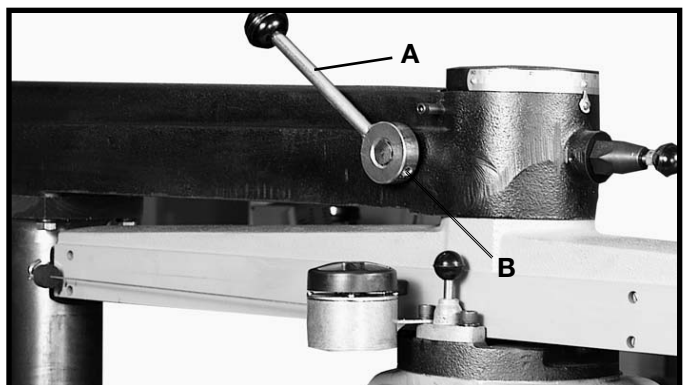

Fig. 39
When the track-arm clamp handle (A) Fig. 39, has to be moved beyond the position shown to clamp the track-arm, an adjustment can be made as follows:
2. Move clamp handle (A) Fig. 39, to the rear as far as it will go.
3. Loosen set screw (B) Fig. 39, remove clamp handle (A) and reposition handle (A) on stud. Move handle to the rear until track-arm is completely locked. Then tighten set screw (B).